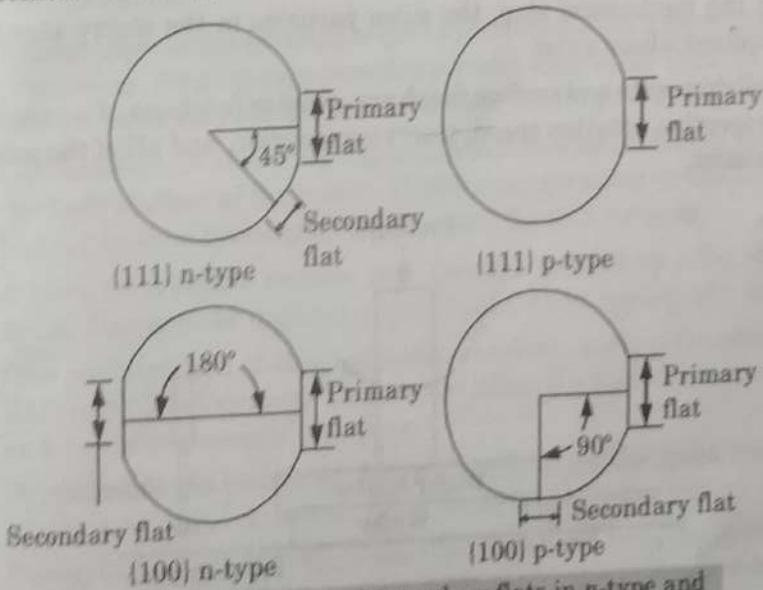

Fig. 1.10.2. Primary and secondary flats in *n*-type and *p*-type Si wafer at different orientations.
7. The smallest flat is called secondary flat and used to identify the orientation and type of the material as shown in Fig. 1.10.2.